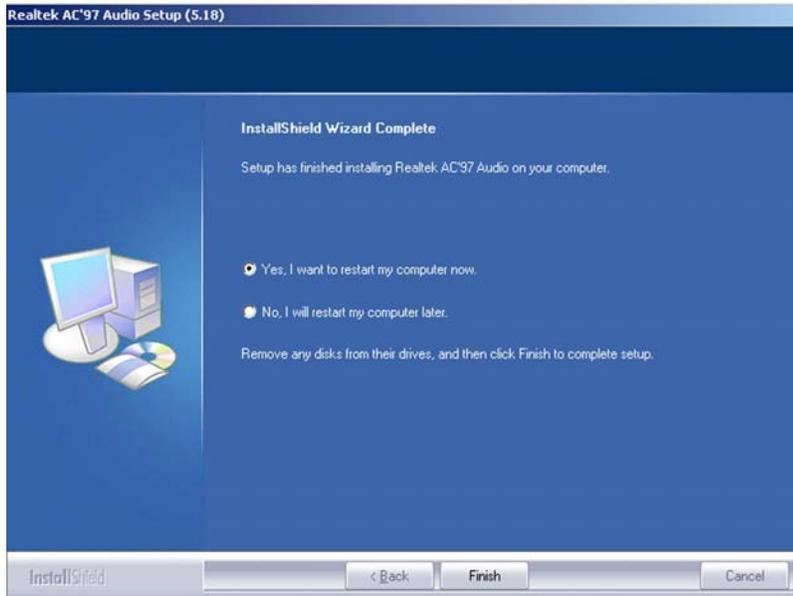

Figure 6-19: Audio Driver Installation Complete
Step 9: After the driver installation process is complete, a confirmation screen shown in **Figure 6-19** appears.
Step 10: The confirmation screen shown in **Figure 6-19** allows you to restart the computer immediately after the installation is complete or to restart the computer later. For the settings to take effect the computer must be restarted. Once you have decided when to restart the computer, click the “**FINISH**” button.